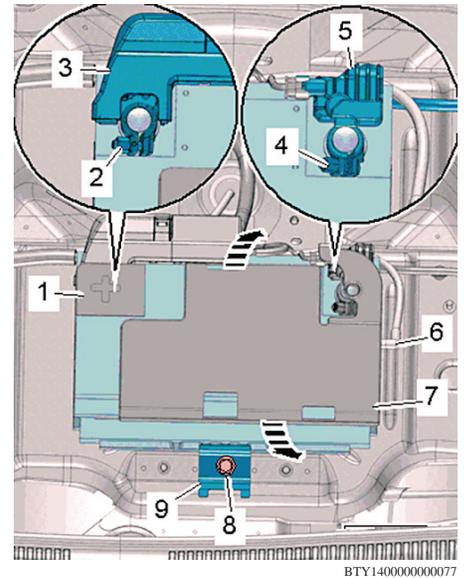

Fig. 2 Battery cable removal
8. Remove battery ground terminal cover (7) from battery (arrows), **Fig. 2**.
9. Loosen nut (4) a few turns and disconnect ground cable from battery ground terminal (5), **Fig. 2**.
10. Remove cover (1) over battery positive terminal, **Fig. 2**.
11. Loosen nut (2) a few turns and remove
- positive cable (3) with main fuse panel from battery positive pole, **Fig. 2**.
12. Disconnect central gas vent hose (6), **Fig. 2**.
13. Remove bolt (8) on battery mounting bracket (9), **Fig. 2**.